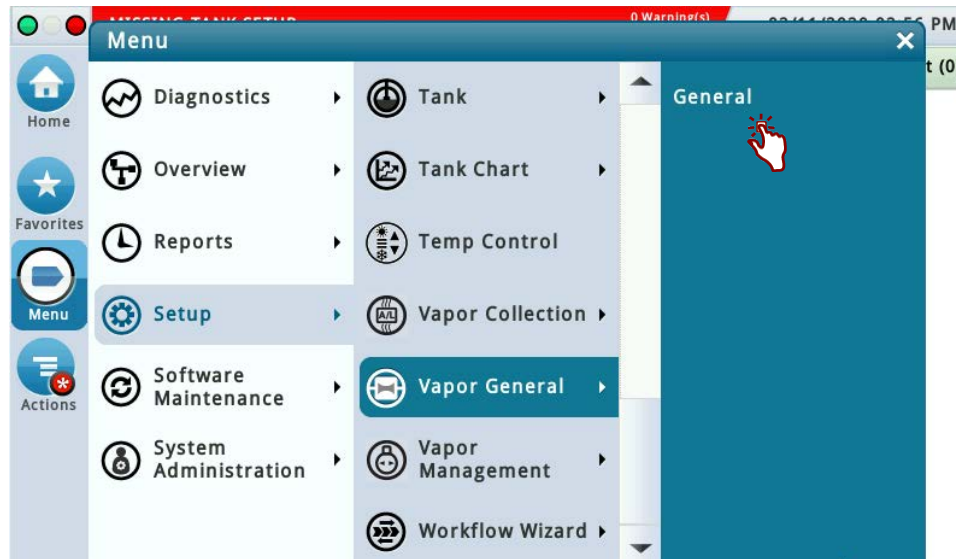
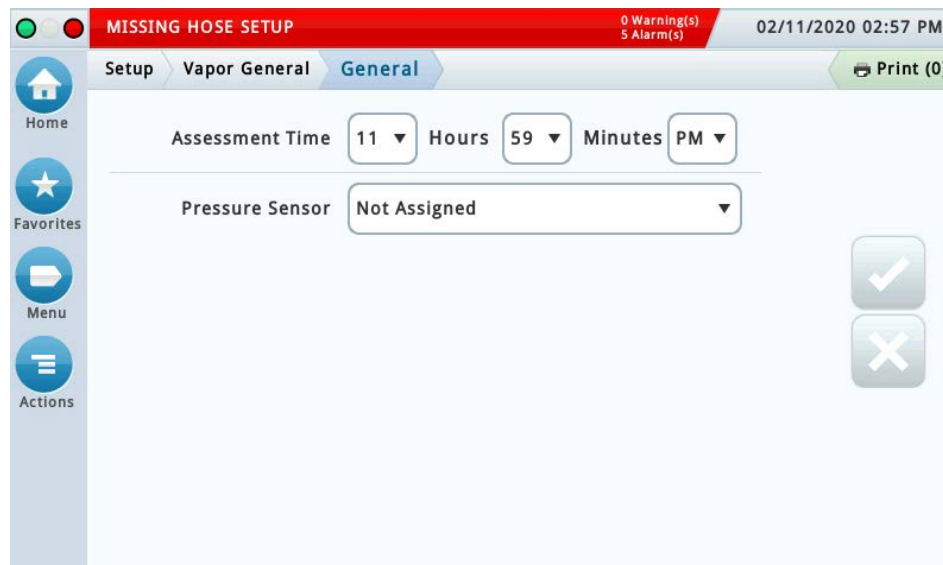

Figure 10. Accessing Vapor General: General Screen
Figure 11. Vapor General: General Setup Screen
1. Go to Menu>Setup>Vapor General>General (Figure 10) to setup Assessment Time and Vapor Pressure Sensor selection (Figure 11).